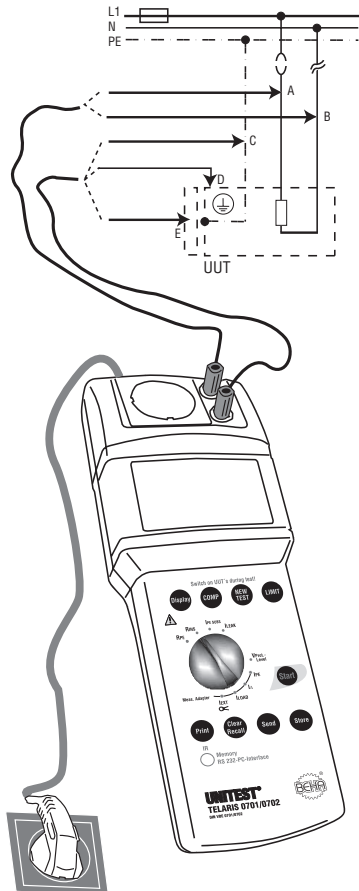

Figure 6.7: Insulation resistance measurement for fixed installed appliances or appliances not equipped with a mains plug.
- ▶ Connect the UNITEST TELARIS 0701/0702 via the mains plug (1) to a functional and correct wired and grounded mains socket.
- ▶ Turn the 'Measurement function' selection switch (15) to position 'RINS'.
- ▶ Connect the UUT PE connection to the blue 'PE' socket (5), in compliance with C in Figure 6.7.
☞ For appliances of protection class I or II, additionally connect the 'PE' socket (5) to all touchable, conductive casing parts of the UUT, in compliance with D, E in Figure 6.7. This is also applicable for conductive parts of class I appliances which are NOT connected to PE.
- ▶ Connect the socket 'L/N' (4) to all active connectors of the UUT, in compliance with A, B in Figure 6.7.
- ▶ Press the key "Start" (9). The unit symbol which is blinking on the display is an indication for the active measurement procedure.
- ▶ Read the measurement value from the LC display (6). If the limit value display is active, the symbol 'LIMIT' (21) indicates that the measurement value has fall below the limit value.